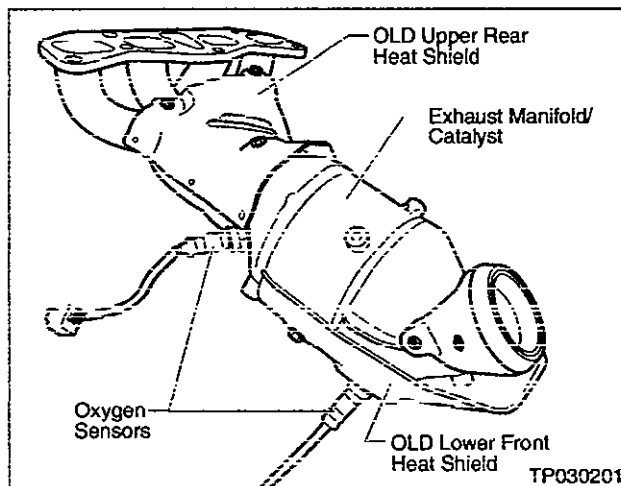

Figure E24
34. Remove three screws and remove the old Lower Front Heat Shield from the old manifold (see Figure E24).